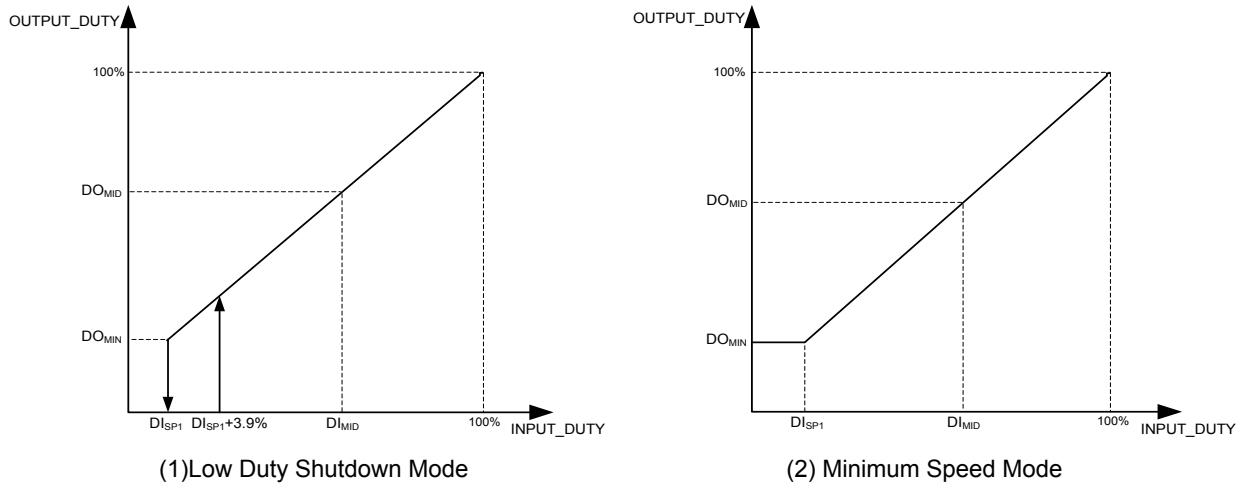

Figure1: Multi Mode Output Duty Control Curve
The APX9178H has two types PWM speed control curve, it select by SP1 pin voltage setting. The first type of PWM speed control curve (See Figure1: Multi Mode Output Duty Control Curve), it can set up low duty shutdown mode or minimum speed mode by VREF pin output current (I_{VREF}) decision and the SP1 pin set up range is GND to VREF-0.3V. In this type (1), when PWM input duty is less than DI_{SP1} , the output will close. Until PWM input duty is rising more than $DI_{SP1}+3.9\%$, the output will startup.